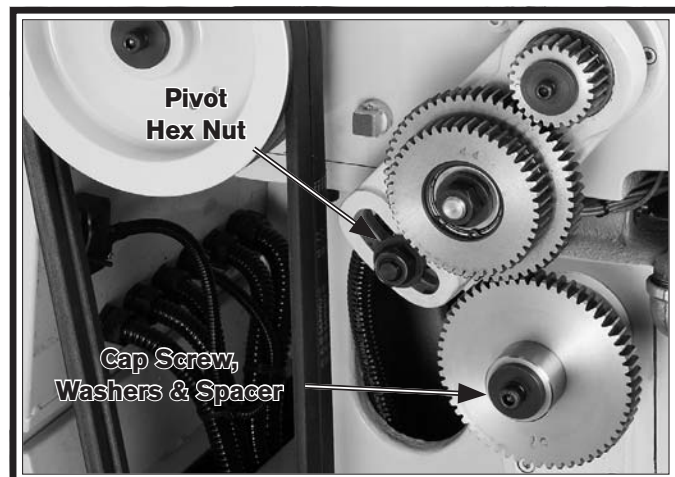

Figure 76. End gear components.
3. Remove the cap screw, lock washer, and flat washer from the bottom 57T end gear (see **Figure 76**).
4. Loosen the pivot arm hex nut shown in **Figure 76**, then swing the pivot arm to the left so that 44T/56T gears are away from the 57T gear. Hand tighten the hex nut to keep the arm in place.